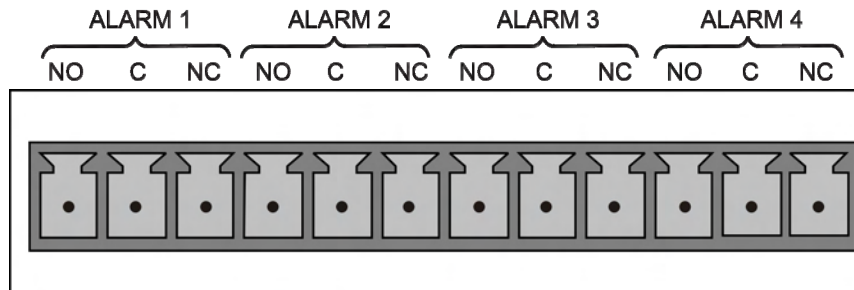

Figure 5-16: Concentration Alarm Relay
The Teledyne API “E” series analyzers have an option for four (4) “dry contact” relays on the rear panel of the instrument. This relay option is different from and in addition to the “Contact Closures” that come standard on all TAPI instruments. The relays have 3 pins that have connections on the rear panel (see Figure 5-16). They are a Common (C), a Normally Open (NO), & a Normally Closed (NC) pin.